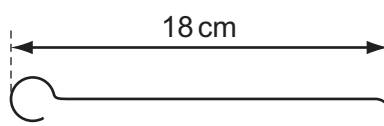

Fig. 1.2
- 2 The wire should be bent into a hook as shown in Fig. 1.2.